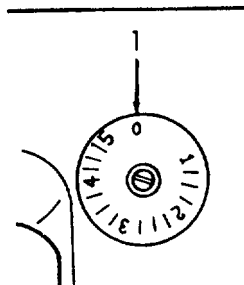

Figure 2-32. Stitch Length, Adjustment.
- (3) With the right hand turn the machine pulley toward you until the needle moves from its highest position, down, and back up to its highest position. Using the left hand, hold the needle thread with a light tension; the needle thread (3) will catch the bobbin thread (4) as shown.
- (4) Pull the needle thread up, drawing the bobbin thread up through the hole in the throat plate. Lay both threads (about 4-in. or 10 cm of each) back under and behind the presser foot.
i. Adjusting Stitch Length (Refer to Figure 2-32).
- (1) The feed regulator dial (1) sets the desired stitch length by controlling the distance the feed dog pushes the material forward at each needle up-stroke. The numbers and graduations on the dial are in millimeters (mm).